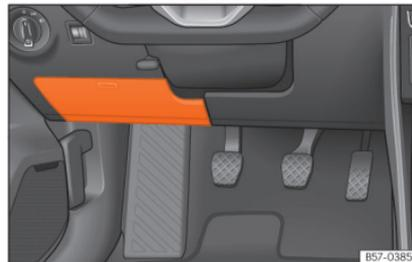

Fig. 49 Left hand drive vehicles: fuse box cover under the driver's side dashboard
- *Open*: fold the cover down »» Fig. 49.